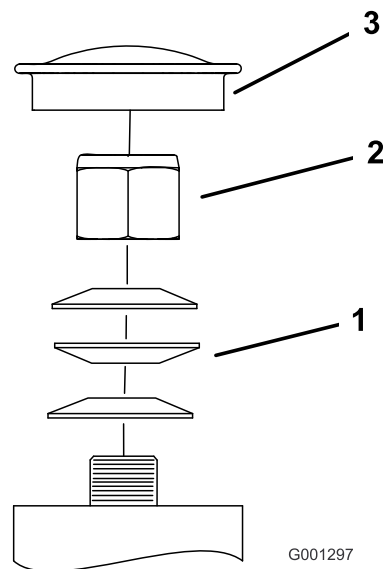

Figure 66
3. Remove the dust cap from caster and tighten the lock nut (Figure 66).
4. Tighten the locknut until the spring washers are flat, and then back off a 1/4 turn to properly set the preload on the bearings (Figure 66).
Important: Make sure that the spring washers are installed correctly as shown in Figure 66.
5. Install the dust cap (Figure 66).